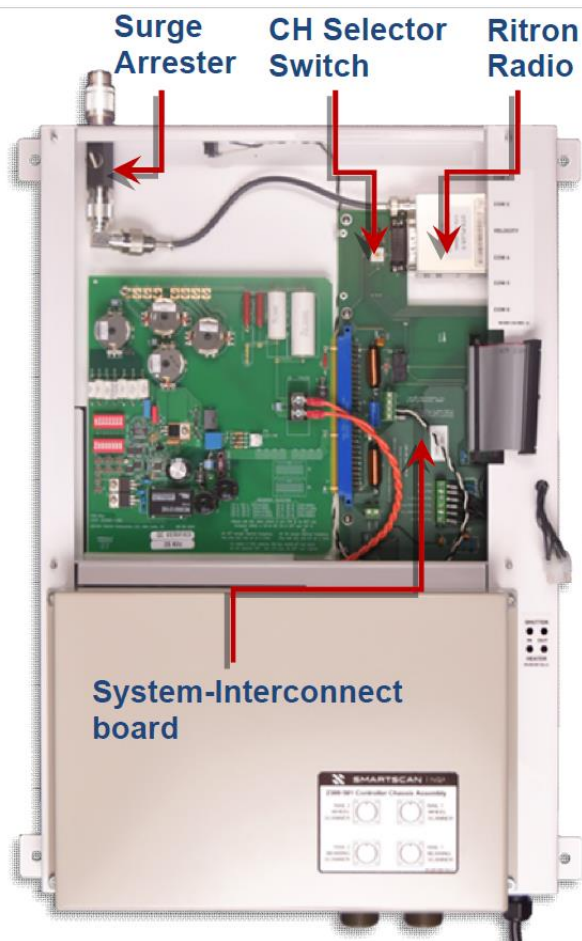

Figure 2 - SmartSCAN chassis with Controller Module removed
2. Locate and remove the Ritron radio from each chassis, as shown in Figure 2.
9. The Track-1 detector controls the channel selection for the Ritron radio mounted in the 2300-375. Select the radio channel via the CH Select Switch on the Track-1 System-Interconnect board, as shown in Figure 2. The Track-2 detector's channel selector does not affect the radio.